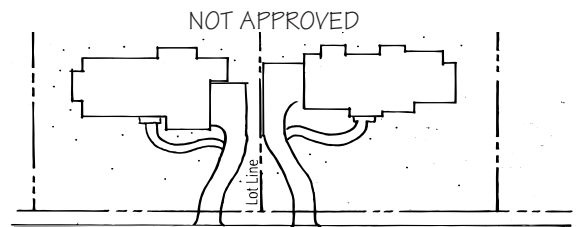

Figure 2.3.3 - \* Not Drawn to Scale
2. Drives that do not meet recommended driveway access location will be excluded from this variance, i.e. drives may not share a common Lot line under any circumstances. (See Figure 2.3.3)